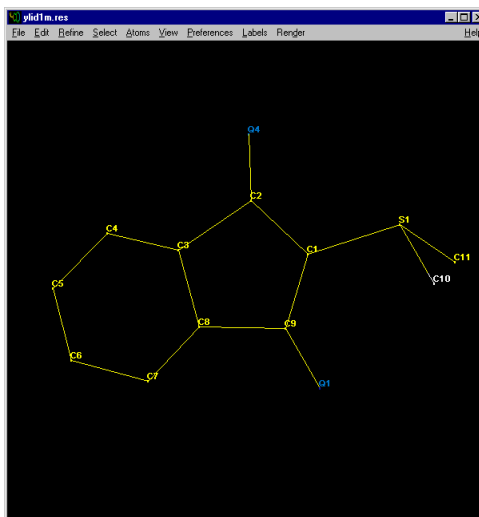

Figure 6-24. Label the peaks
26. Click OK to label these peaks as C with a starting number of 1 (Figure 6-24).